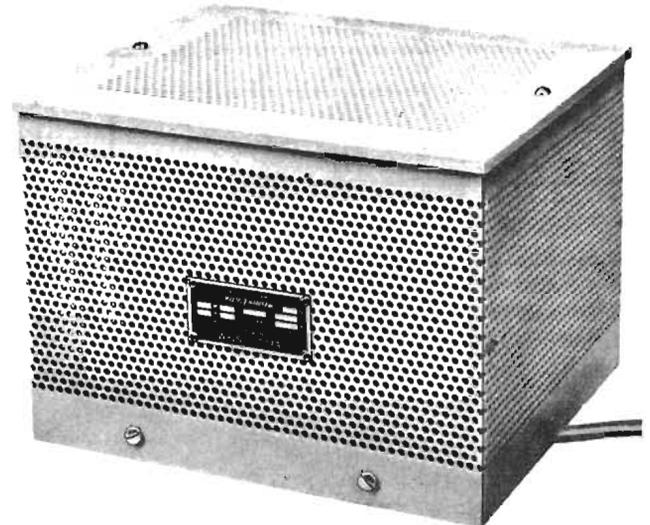

Fig. 11 - J86205B or F Rectifier
**8.02** The J86205B and F rectifiers are housed in the case shown in Fig. 11. This case is approximately 8-1/2 inches long, 6-1/2 inches high, 6-1/2 inches deep, and is designed for wall or shelf mounting.